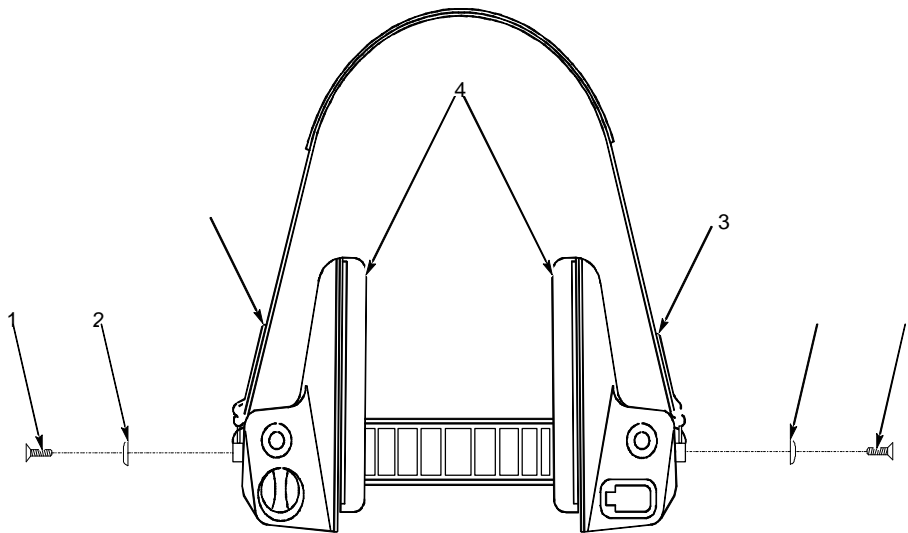

Figure 3-20. Overhelmet Strap Assembly
1. Align foam damper (2) and damp cover (3) and place on earcup assembly (1).
2. While holding foam damper (2) and damp cover (3) in place, align and set earcushion (4) on earcup assembly (1) and snap in place.
3.9.2. Overhelmet Strap Assembly Removal and Replacement (Fig. 3-20)